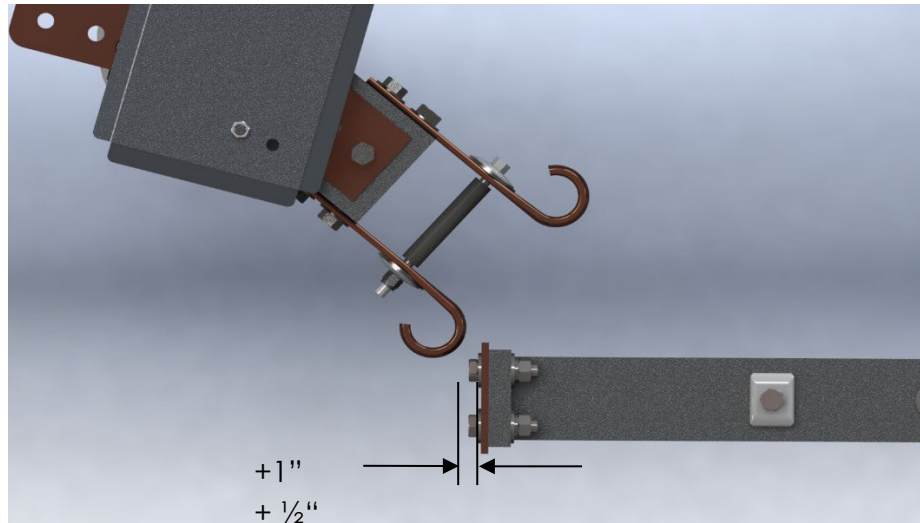

Figure 10: Blade Open Gap
- 4) There should be a gap of approximately  $\frac{1}{2}$ " to 1" between the female blade contacts and the male blade tip when the female blade assembly is fully open. See Figure 10. It is critical that this gap is maintained to provide the proper clearance on opening.